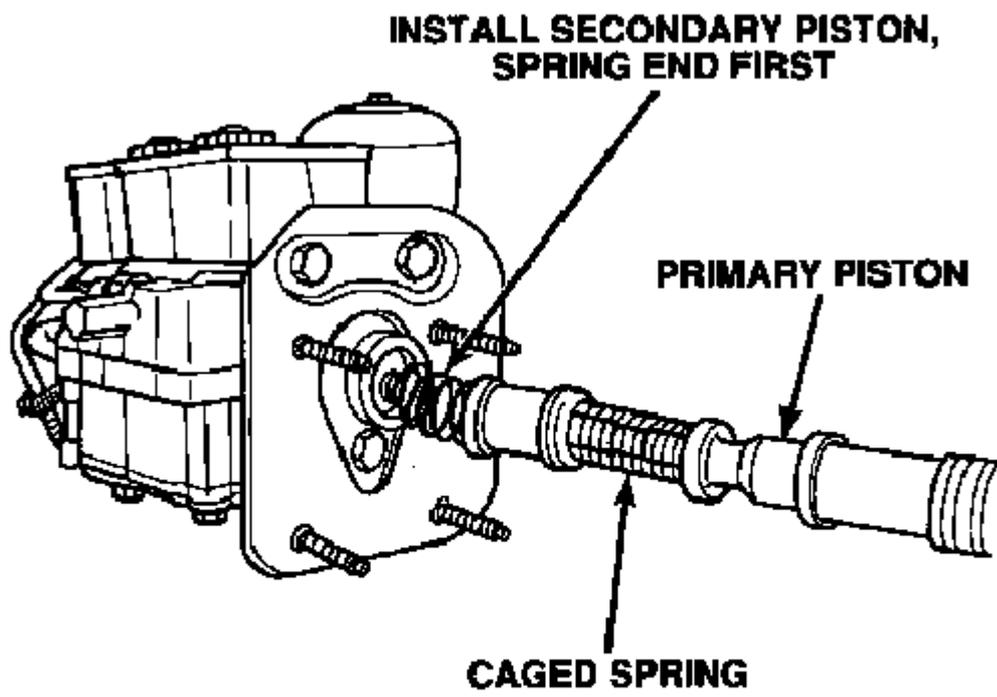
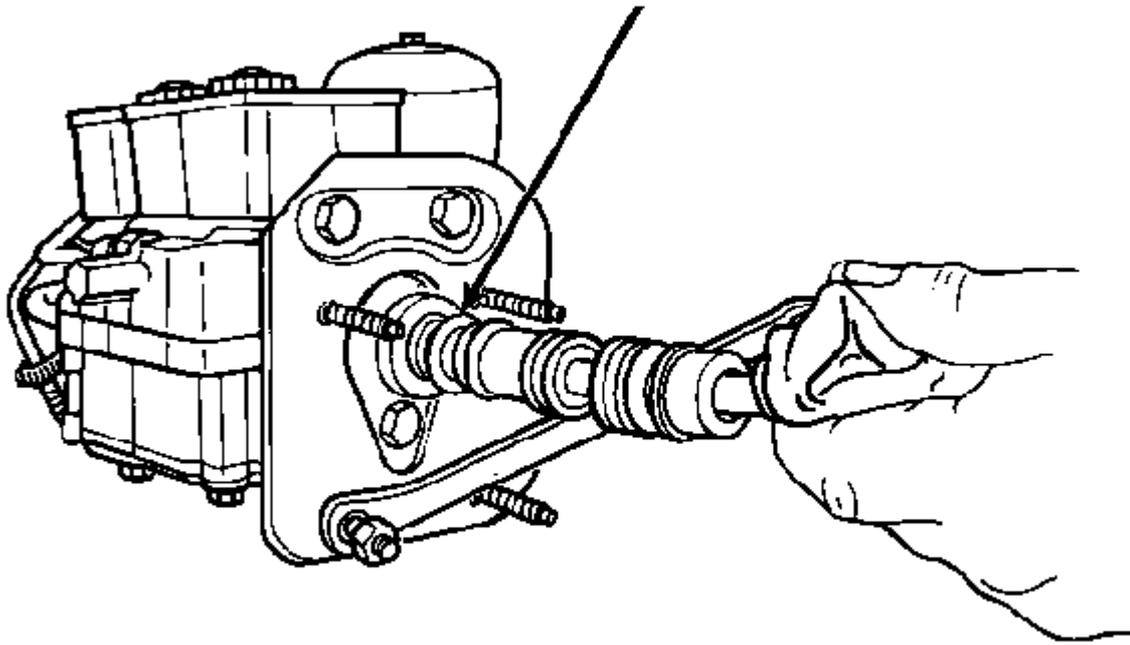

Figure 12
Figure 13
16. Install the secondary piston, spring end first, into the actuator bore (Figure 12). Ensure the seal cup is not folded back or twisted. Push the secondary piston in until the rear end of the piston is flush with the actuator bore opening (Figure 13).
17. Position the caged spring at the end of the primary piston assembly over the pin on the rear of the secondary piston (Figure 12). The caged spring must remain over this pin throughout the installation procedure.